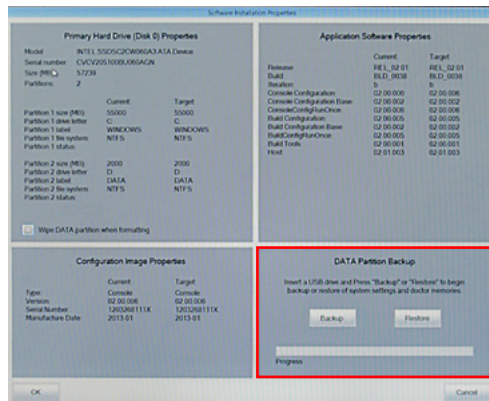

Figure 4-20 DATA Partition Backup and Restore Buttons
- 4.1.5 In the DATA Partition Backup section (see Figure 4-20), click Backup.
- 4.2.3 In the DATA Partition Backup section (see Figure 4-20), click Restore.